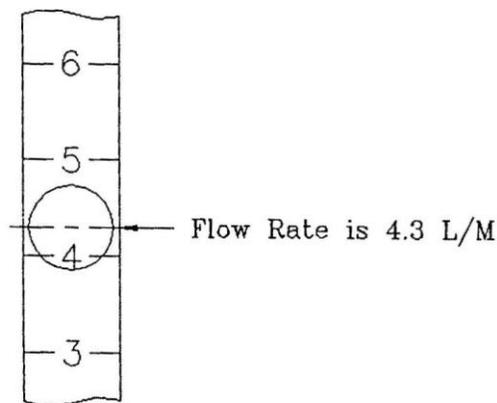

Figure 32
- **Nitrous Oxide and Oxygen Flowmeter Tubes** – The amount of gas flowing is indicated by reading the mid-point (maximum diameter) of the ball (see fig 32)